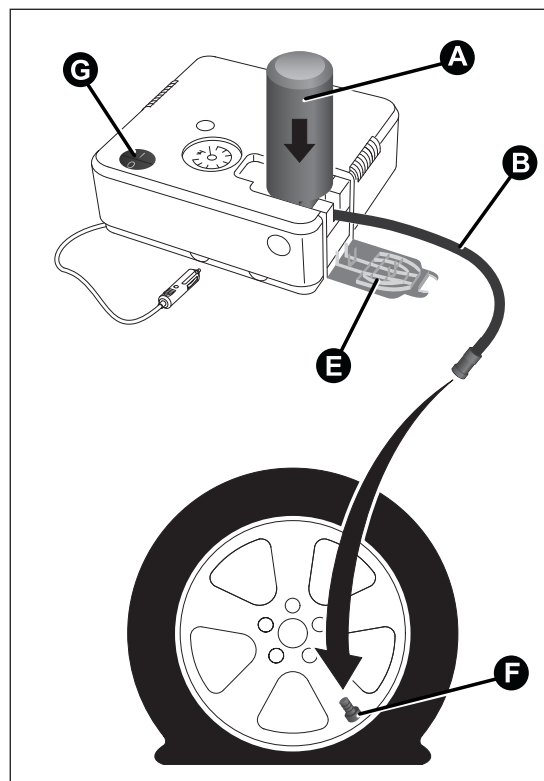

fig. 105
- ☐ locate the filler pipe B fig. 105 already connected to the spray bottle A;